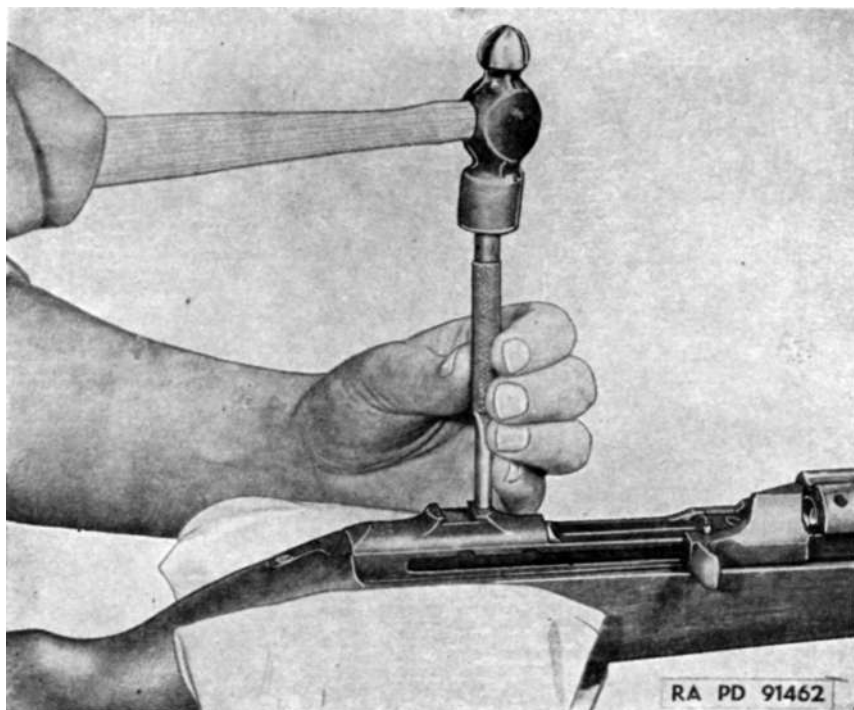

Figure 41. Peening receiver to reduce oversize dovetail dot.
v. Sometimes a dovetail slot in the receiver may be too big to receive any sights available. In such cases, where less than 18 pounds pressure is required indent the area in front of the dovetail slot. This can best be done by using a large steel drift, placing the drift in the location shown in figure 41, and rapping the drift with a hammer. Undertake this operation with extreme caution. A blow only hard enough to cause a flow of metal into the dovetail slot is necessary.